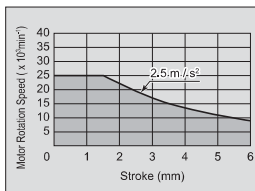

Fig. 1
- Do not use LUSTER at vibration levels of 2.5 m/s2 and higher. Select the combination of motor rotation speed and stroke so that the vibration level stays in the shaded area as shown on the chart lower right (Fig. 1)
Maximum Allowable Motor Rotation Speed	Less than 25,000min -1 (rpm) (Refer to Fig. 1)
Vibration Level	Use the Attachment less than 2.5m / s 2 (Refer to Fig. 1)
- ⑧ Adjust the stroke according to the " 1. CAUTIONS FOR HANDLING AND OPERATION (Fig. 1) ".